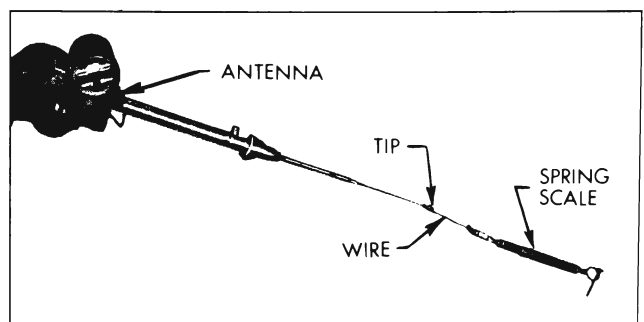

Figure 11-13—Antenna Ready for Adjusting Test
3. Connect one end of a wire securely to the mast just below the tip and the other end to a 25 lb. capacity spring scale. Secure the spring scale to the bench so that the center line of the scale is in line with that of the mast assembly. See Figure 11-13.